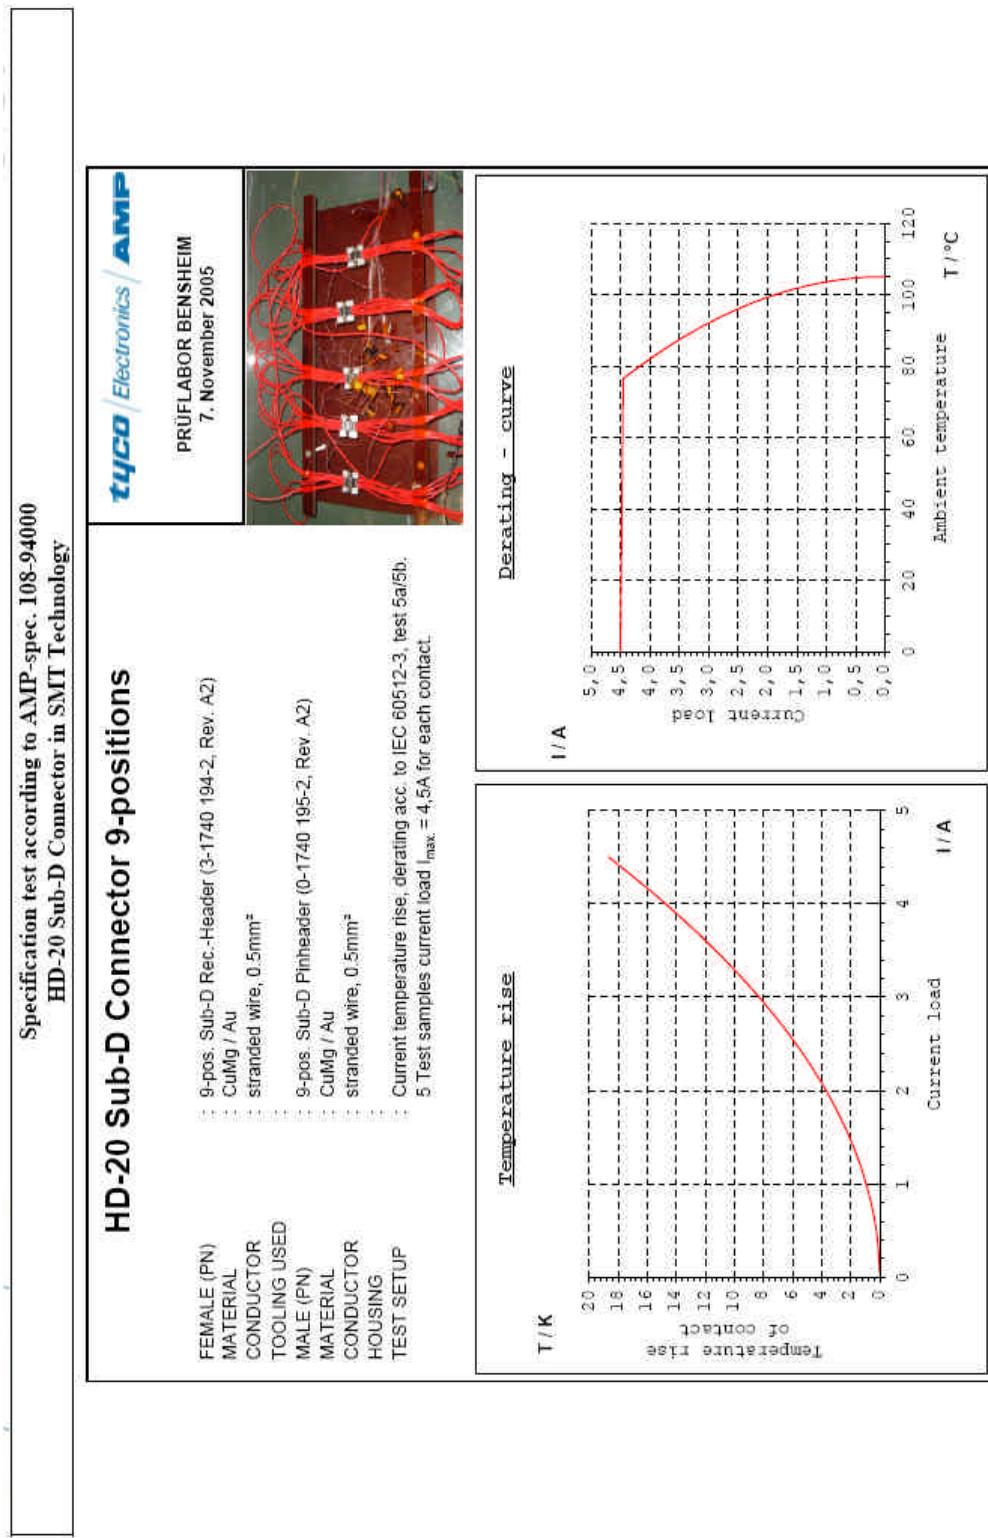

Figure 4
- b. Current: 4,5 A max. , depending of loaded situation and application. See Figure 4 till 7